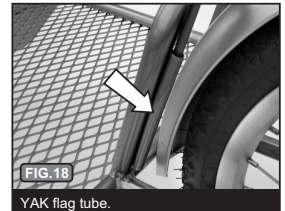
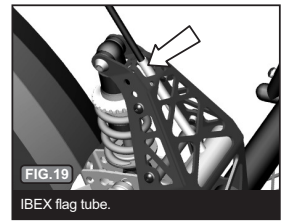
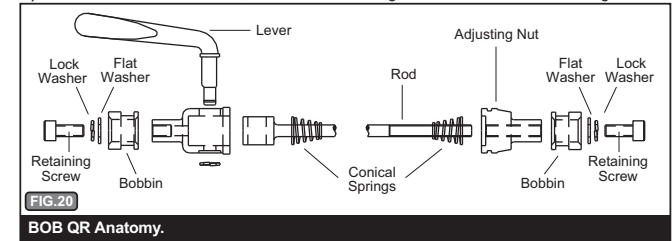

FIG. 18
FIG. 19
FIG. 20
**B)** Install completely into the flag tube. On the YAK the flag tube is located on the left side of the cargo stop, FIG. 18. On the IBEX it is located in the middle of the shock tower, FIG. 19.
**8. BOB QUICK RELEASE (QR) INSTALLATION:**
**IMPORTANT:** Bicycle manufacturers use a large variety of components and materials to build their bikes and the thickness of the rear wheel dropouts vary greatly. It is extremely important to have your BOB QR sized to the appropriate length and correctly installed on your bike. Please note the dropout inside dimension assumes that the dropouts are firmly pressed against the hub axle over locknuts, alleviating any gap between the two and allowing for an accurate measurement. The QR's primary role is to secure the rear wheel to your bike, and secondarily, it is the structural link between the bike and trailer. For a QR to work properly, the QR rod must extend past the dropout on the derailleur side by a minimum of 3/8 inch (10mm) and maximum of 3/4 inch (19mm). Fig. 20 shows the anatomy of the BOB Quick Release.
**A)** The stainless steel pivoting BOBBINS on the quick release skewer are asymmetrical as shown in Fig. 20. This asymmetrical design allows the BOBBINS to be reversed, allowing for a variance of approximately 13mm in outside dimensional span of the bike's dropouts.
**C)** With the quick release installed, and using a 4mm Allen wrench, remove the BOBBIN retaining screws, Fig. 20, on both the left and right sides. Remove the BOBBINS and reverse them noting the position of the lock and flat washers.